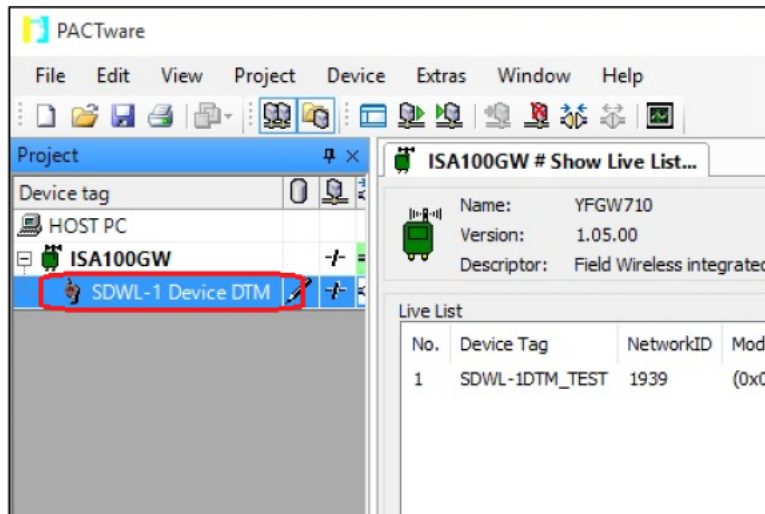

Figure 5-29 SDWL-1 DTM added
- ⑧ “SDWL-1 Device DTM” is added to the tree menu on the left side of the main window. (Figure 5-29)